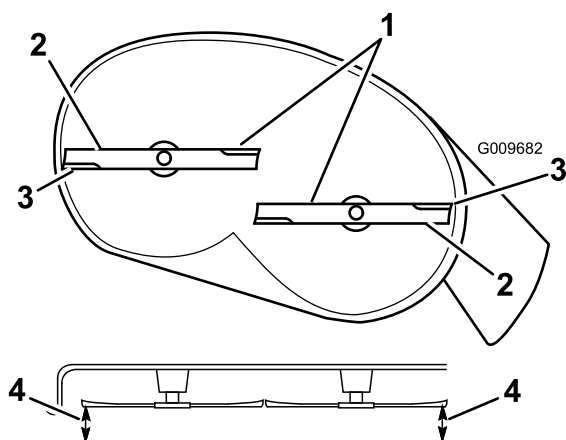
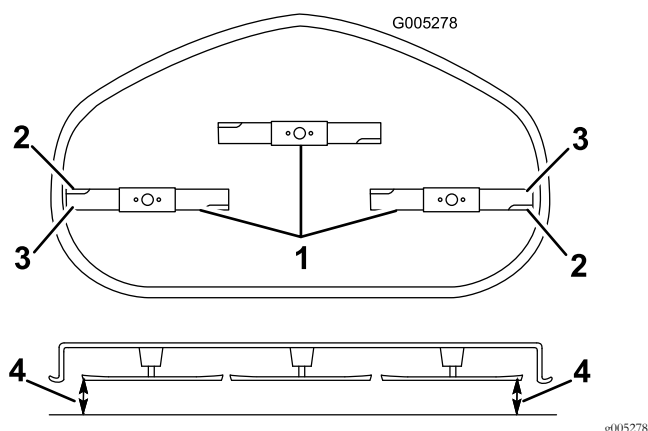

Figure 58
Figure 59
4. Carefully rotate the blades so that they are all side to side (Figure 58 and Figure 59).
- Measure between the outside cutting edges and the flat surface (Figure 58 and Figure 59).